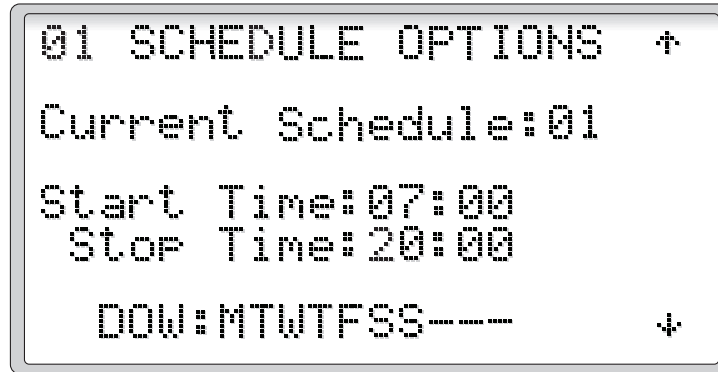

Figure 27
2.3.2.2 Current Schedule (Figure 27)